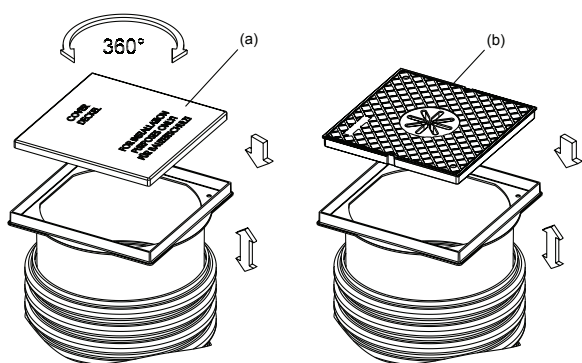

Figure 4: Mounting of upper fitting
1. Insert the white plastic installation cover (a) into the frame of the upper fitting. The cover is only suitable for foot traffic (see Figure 4).